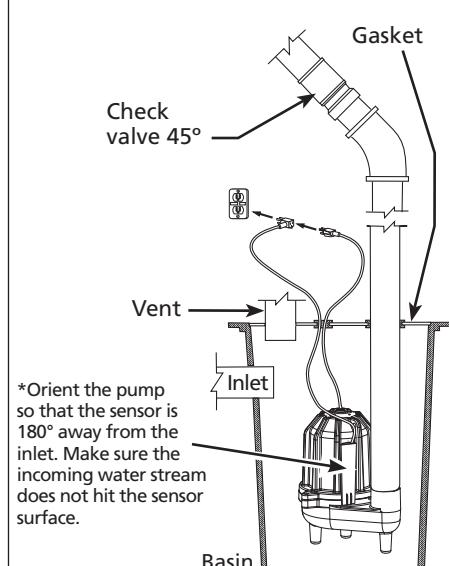

Figure 3B - Prefabricated Basins
- sensor is 180° away from the inlet. Make certain the incoming water stream does not hit the surface (See Figure 3B).